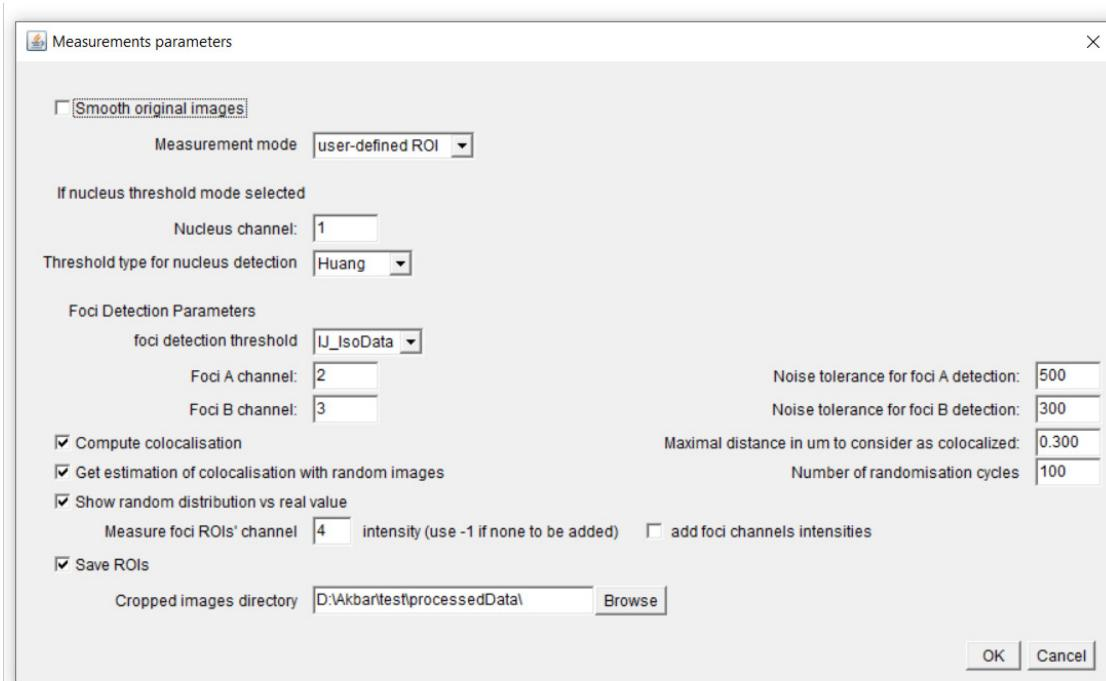

Fig. 3.1. The “Count foci in two channels and colocalize menu
STEP2. Select the original region of interest to be used for the measurements. As in the previous routines, the user may either select the user-defined ROI (ie. the .roi that was generated upon image cropping), or use a thresholded nucleus staining (figure 3.1). This user-defined or nucleus ROIs are referred as “reference ROI” below.